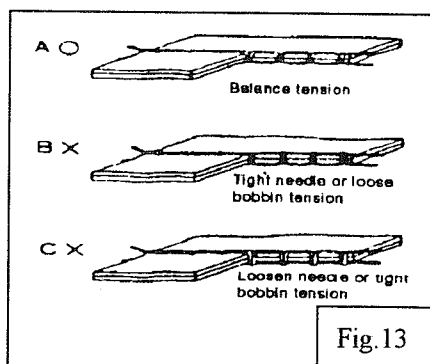

Fig.13
8. Balance of thread tension (Fig.13):